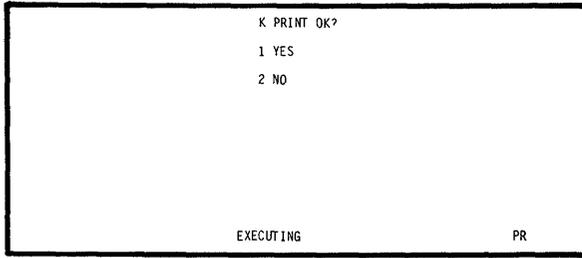

Fig. 14.11
- 1 : As shown in Fig. 14.11, "EXECUTING" message is displayed and execution is initiated.
By pressing the **[GO]** key, the screen returns to the display shown in Fig. 14.11 and execution is resumed.